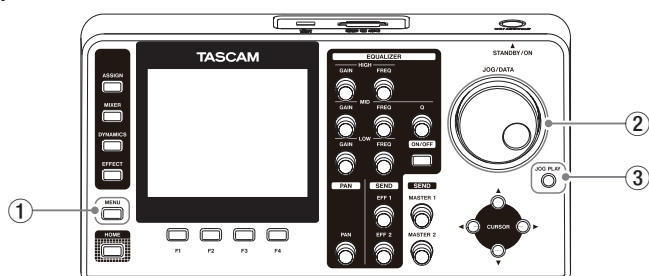

Fig 2-a
- Use the **JOG/DATA** dial (Fig. 2-a②) to select the **"VOLUME"** item (Fig. 2-a④).
- Press the **JOG/PLAY** button (Fig. 2-a①) to open the **"VOLUME CHECK"** screen (Fig. 2-b①).